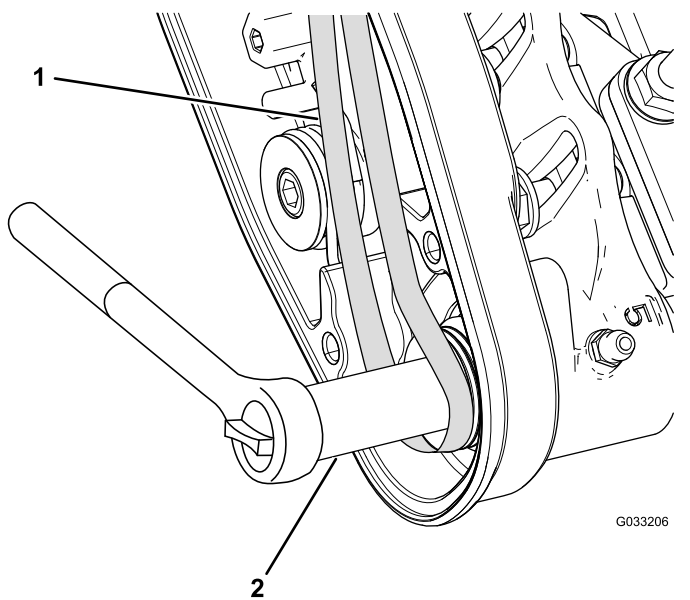

Figure 27
- C. Use a deep-well socket (9/16-inch) to rotate the brush assembly and guide the belt onto the driven pulley (Figure 27).